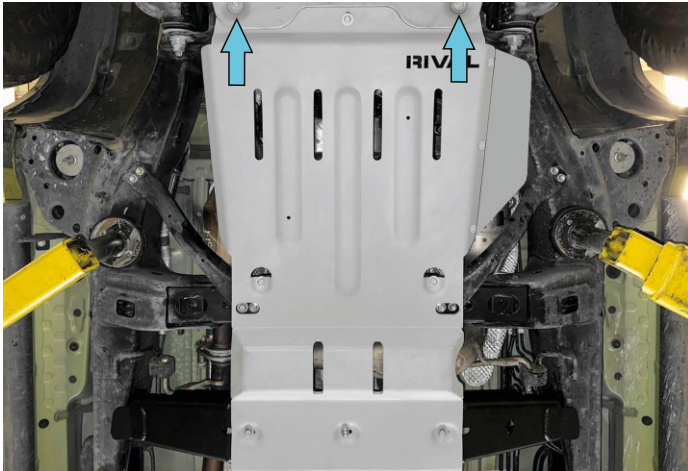

Fig.13
13. Slide the front of the transmission and transfer case skid plate (item 1) between engine skid plate and frame then slide the center slotted holes in the skid plate over previously installed M8x30 bolts(item A) and M8 flat washers (item D) from step 4. Secure the front of the transmission and transfer case skid plate using M8x30 bolts (item A) and M8 flat washers (item D) as shown in fig.13&14.